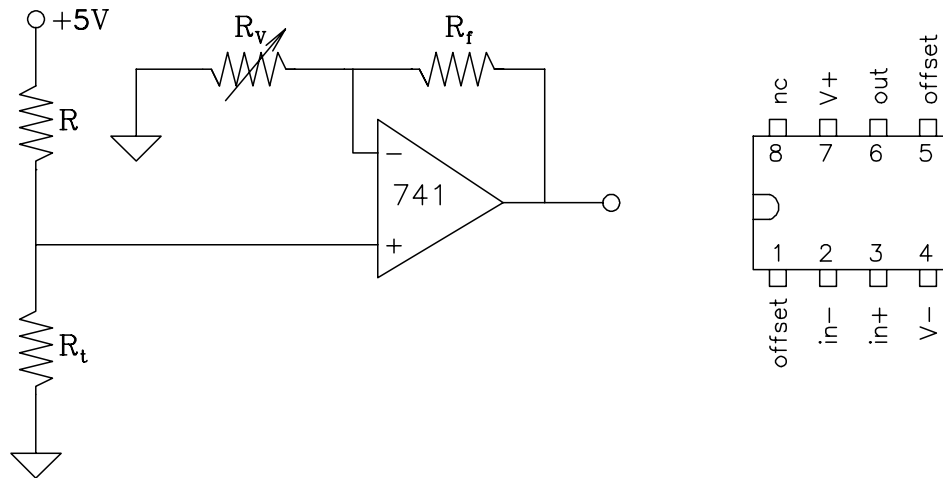

Figure 7.1: **Thermistor circuit.**
- ⓘ Assemble the thermistor circuit as shown in Fig.7.1.